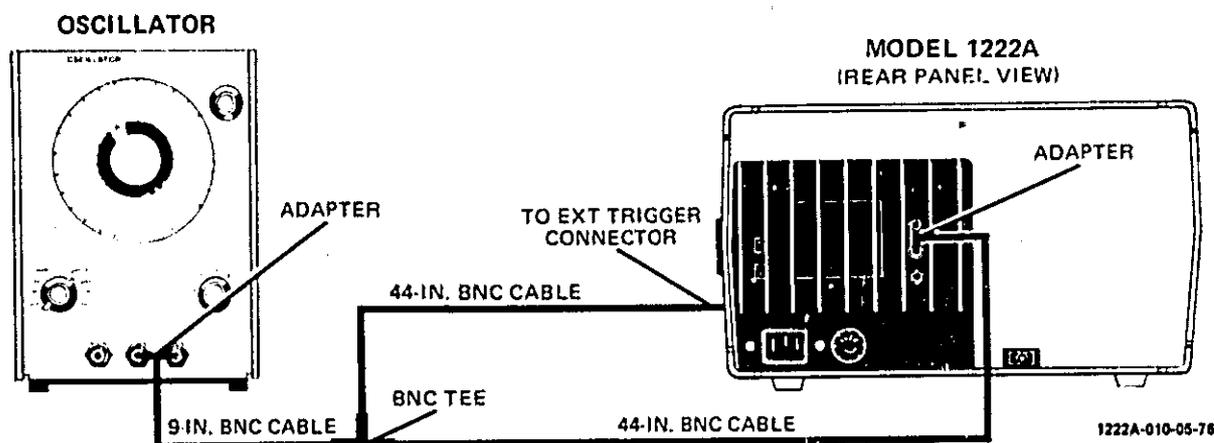

Figure 5-2. Z-axis Blanking Test Setup
- d. Connect equipment as shown in figure 5-2.